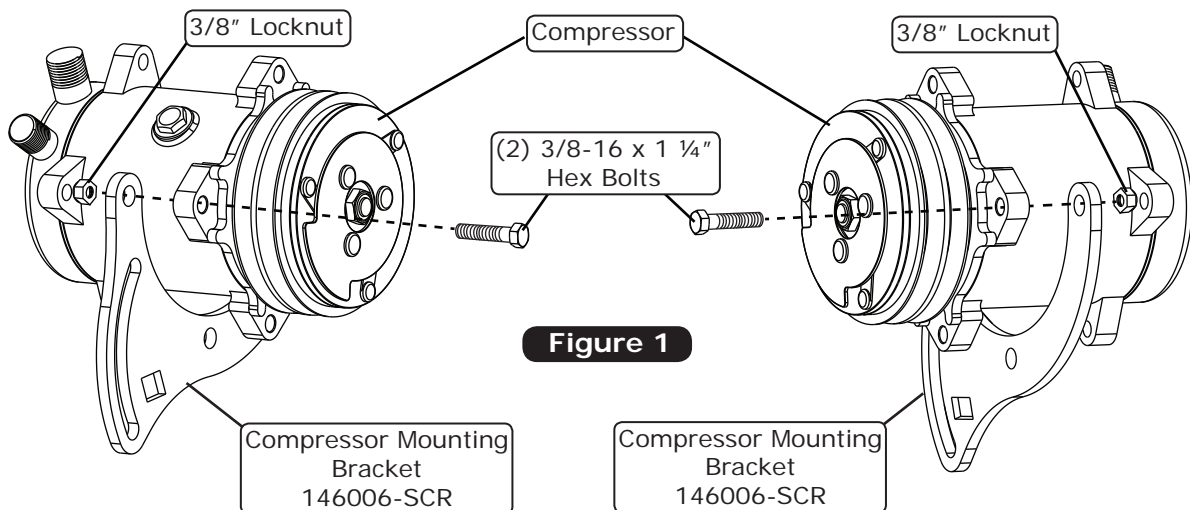

Figure 1
1. Install the compressor mounting bracket onto the compressor using (2) 3/8-16 x 1 1/4" hex bolts and (2) 3/8" locknuts as shown in Figure 1, below.